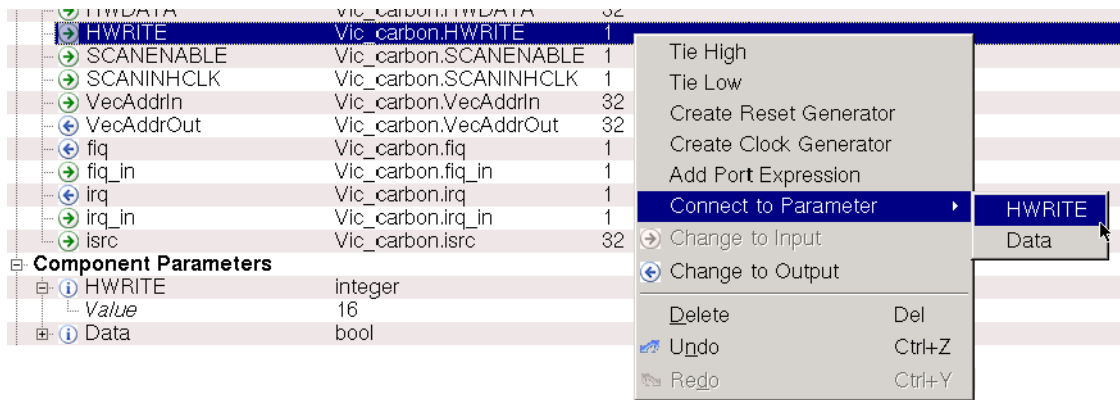

Figure 4-32 Connecting ESL Port to SoC Designer Component Parameter
1. Right-click the ESL port name and select **Connect to Parameter** from the context menu, and then select the existing parameter (Figure 4-32).